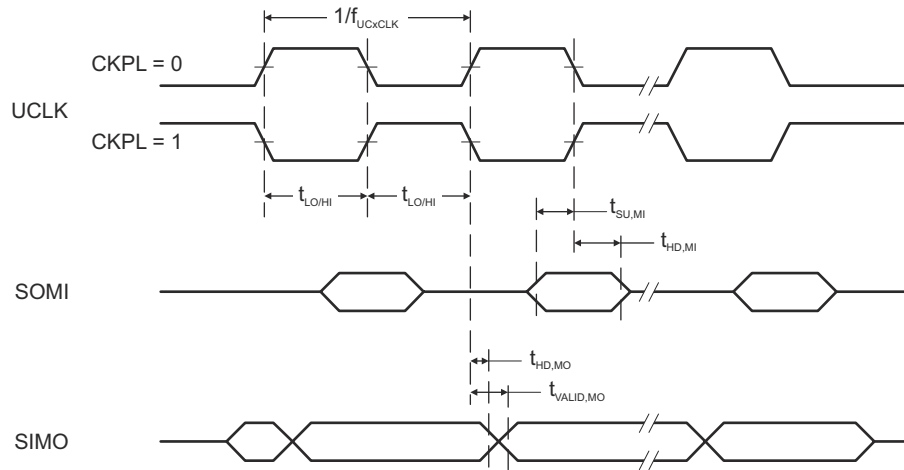
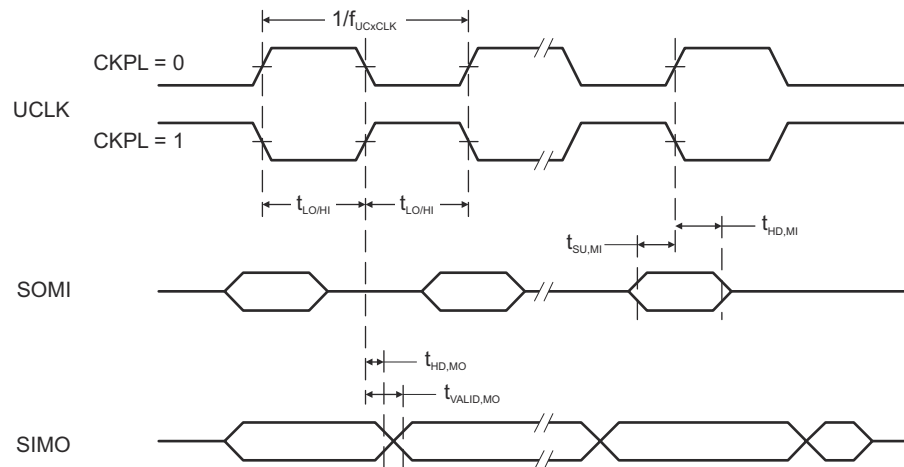

图 8-11. SPI Master Mode, CKPH = 0
图 8-12. SPI Master Mode, CKPH = 1
(see 图 8-11 and 图 8-12)
(2) Specifies the time to drive the next valid data to the SIMO output after the output changing UCLK clock edge. See the timing diagrams in 图 8-11 and 图 8-12.
(3) Specifies how long data on the SIMO output is valid after the output changing UCLK clock edge. Negative values indicate that the data on the SIMO output can become invalid before the output changing clock edge observed on UCLK. See the timing diagrams in 图 8-11 and 图 8-12.